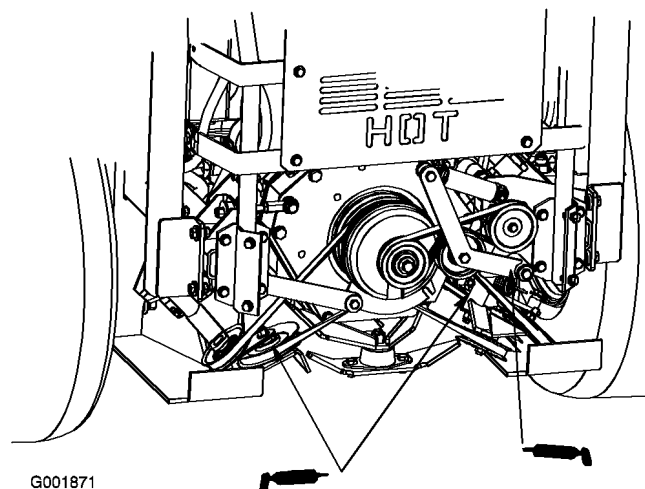

Figure 38
1. Grease the cooling fan belt idler arm (Figure 38).
2. Grease the drive belt idler arms (Figure 38).